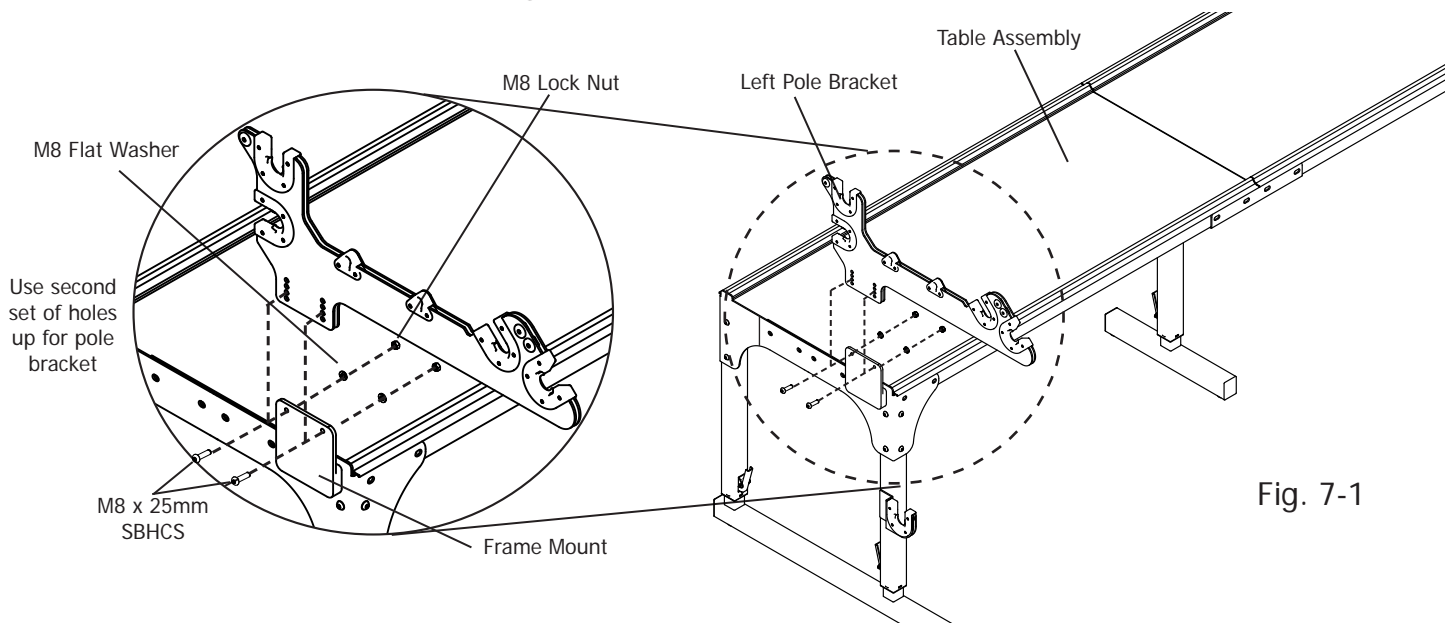

Fig. 7-1
7-1: Slide the plugged-hole pole bracket down over the metal frame mount on the left frame side front. The pole bracket should straddle the frame mount. Attach the plugged-hole pole bracket to the frame using two (2) M8 x 25mm SBHCS. Thread the screws through the second hole from the bottom of the pole bracket from the outside to the inside of the frame. On the end of each screw, slide a flat washer followed by a lock nut, as shown in Fig. 7-1.